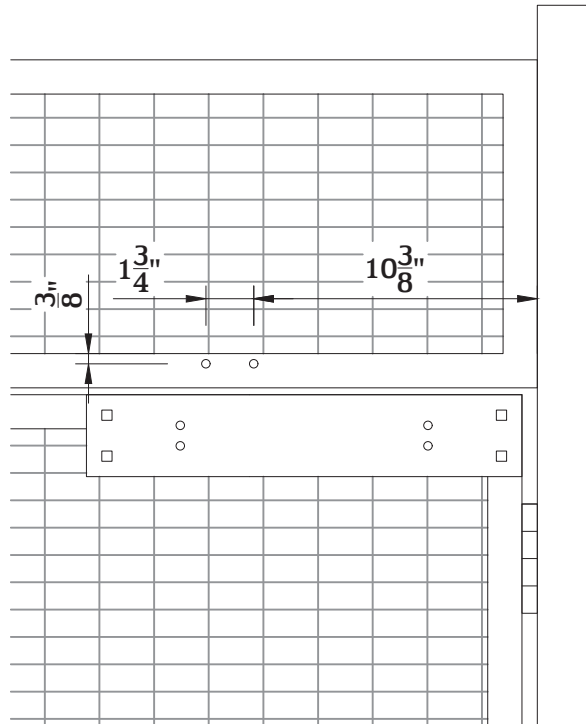

Fig.1
1. Position closer plate as shown above in Fig.1 or Fig.2. Mark the square holes and then drill $\frac{3}{8}$ " \varnothing holes in face of door. Two bolts are required. Some wires may need to be cut on the inside to clear these holes. Use carriage bolts provided by WireCrafters to secure plate to door or transom.
2. Drill $\frac{5}{16}$ " \varnothing holes as show above in Fig.1 or Fig.2 for closer arm. Mount closer with hardware provided by WireCrafters and follow manufactures instructions.